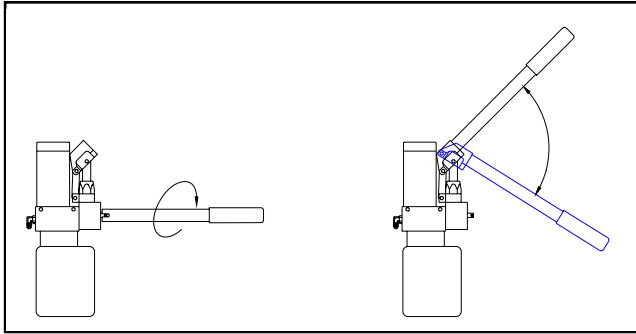

FIGURE 2-12: MANUAL BACK-UP PUMP – RAISE PLATFORM
- 1) Refer to **Figure 2-12**. Check pump release valve to be certain it is closed.